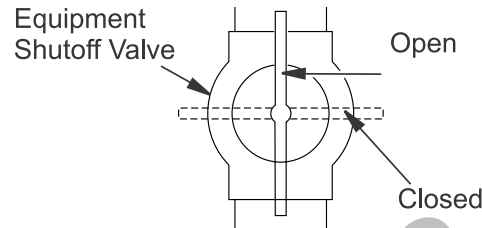

Figure 23 - Equipment Shutoff Valve
1. Close equipment shutoff valve (see Figure 23).
1. Open equipment shutoff valve (see Figure 23).